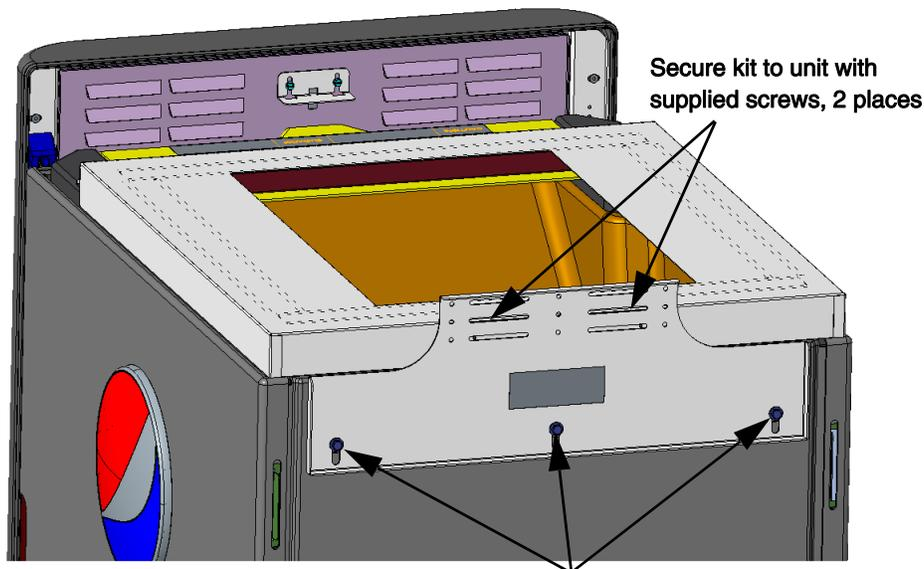

Figure 3.
2. Secure the kit to the dispenser using the screws provided and the pre-drilled holes in the Kit. Refer to Figure 3.